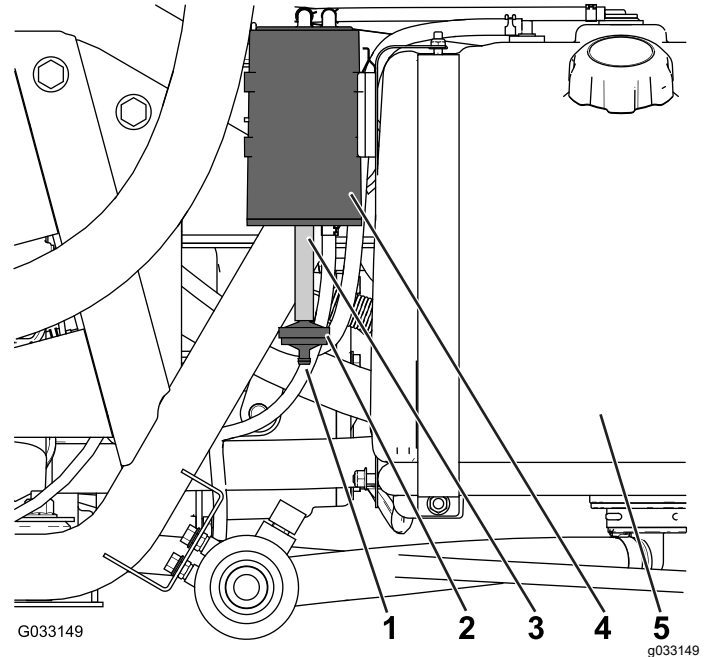

Figure 44
Check the opening at the bottom of the air filter for the carbon canister to ensure that it is clean and free of debris and obstructions (Figure 44).
1. Remove the barbed fitting of the carbon-canister filter from the hose at the bottom of the carbon canister, and remove the filter (Figure 44).